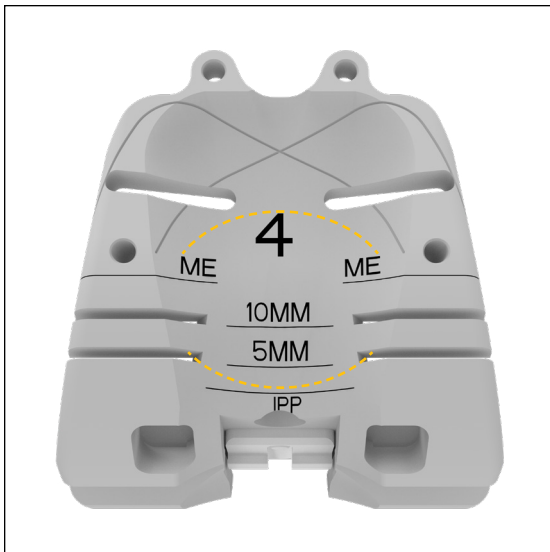

Figure 99
- Assess the location of the patella. In extension this should be proximal to the inferior pole of the patella (IPP) line. Patella placement too far proximally during extension will adversely impact patella tracking (Figure 99).